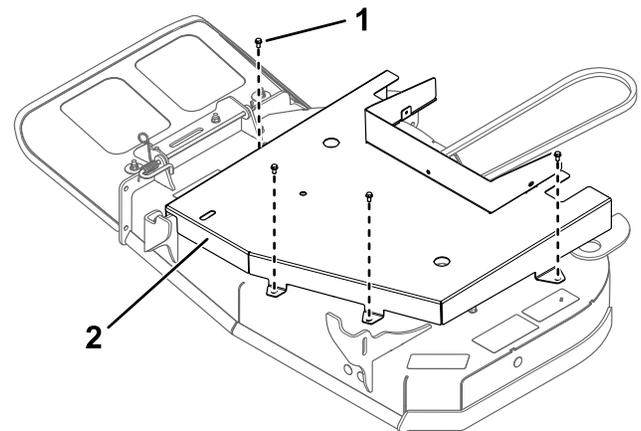

Figure 26
1. Bolt (2)
4. Remove the 4 bolts securing the deck guard and remove the guard (Figure 26).